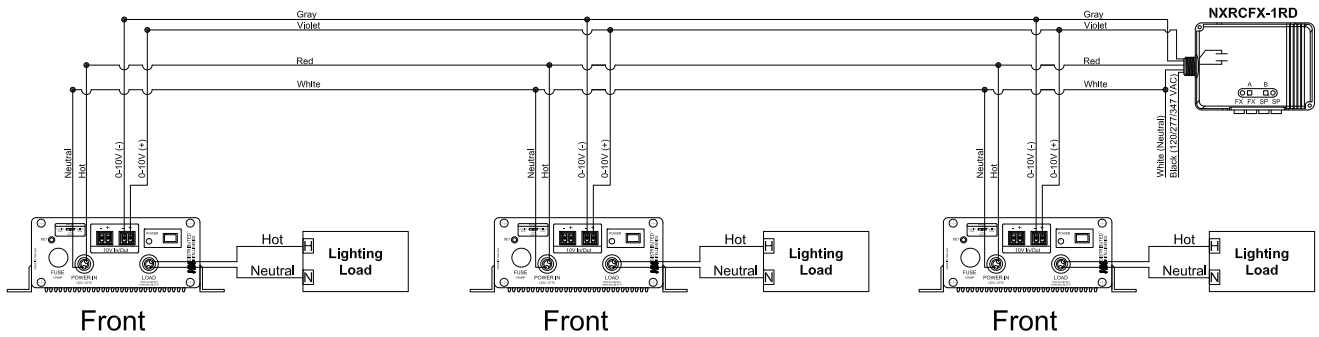

FIGURE 2: Wiring Diagram to multiple NXFRD
6. If you are using multiple NXFRD with a single 0-10V signal, you can daisy chain multiple units using the port labeled OUT-10V. See Figure 2.